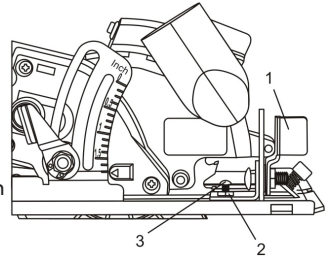

Fig. 4
- Loosen the bevel locking lever (1) and rotate the sole plate toward the 0° mark as far as it will go and tighten the bevel angle locking lever (Fig. 4).
- If the test cut is not at 90°, turn the zero adjustment lock nut (2) counterclockwise approximately ¼ turn using a 7mm wrench.
- Use a #2 (+) screwdriver to turn the zero bevel adjusting screw (3) in or out until the saw is cutting at 90° when the sole plate is contacting the adjusting screw.